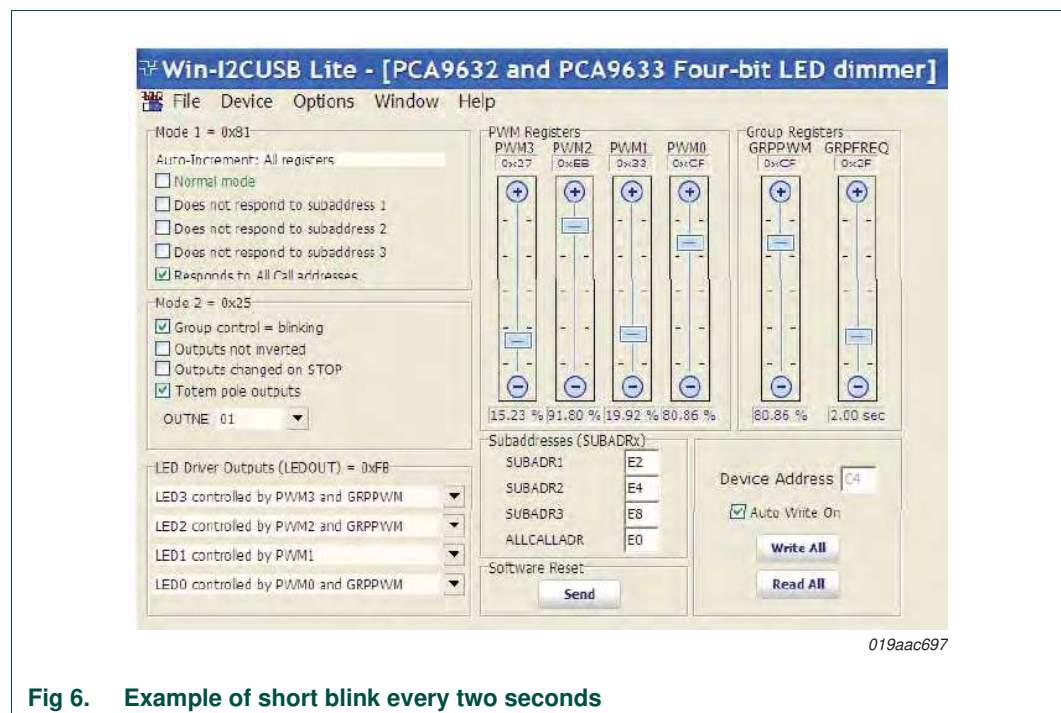

Fig 6. Example of short blink every two seconds
4. For example, set the GRPPWM to 0xCF (80.86 % duty cycle) and the GRPFREQ to 0x2F (2 second) for a short blink every two seconds (see Figure 6).